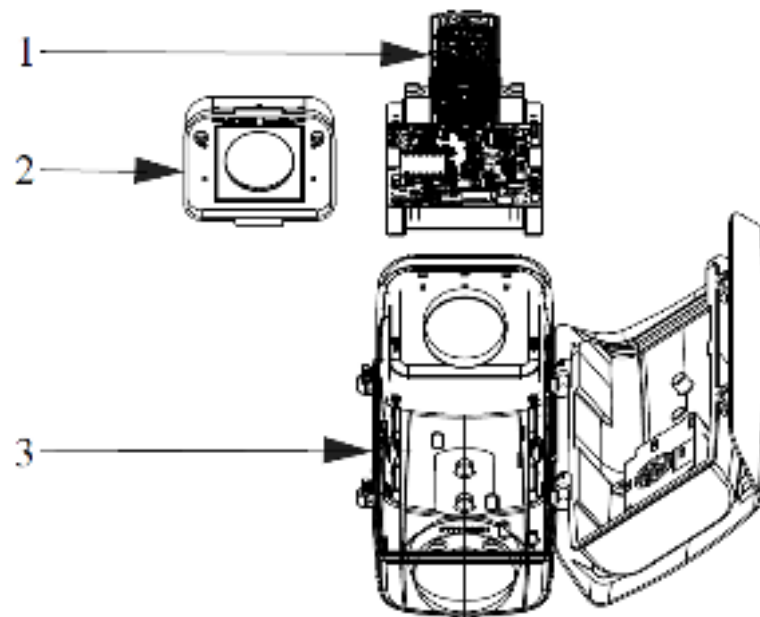

Figure 2-3
Step 2: Secure the camera bracket on the case. See Figure 2-3.